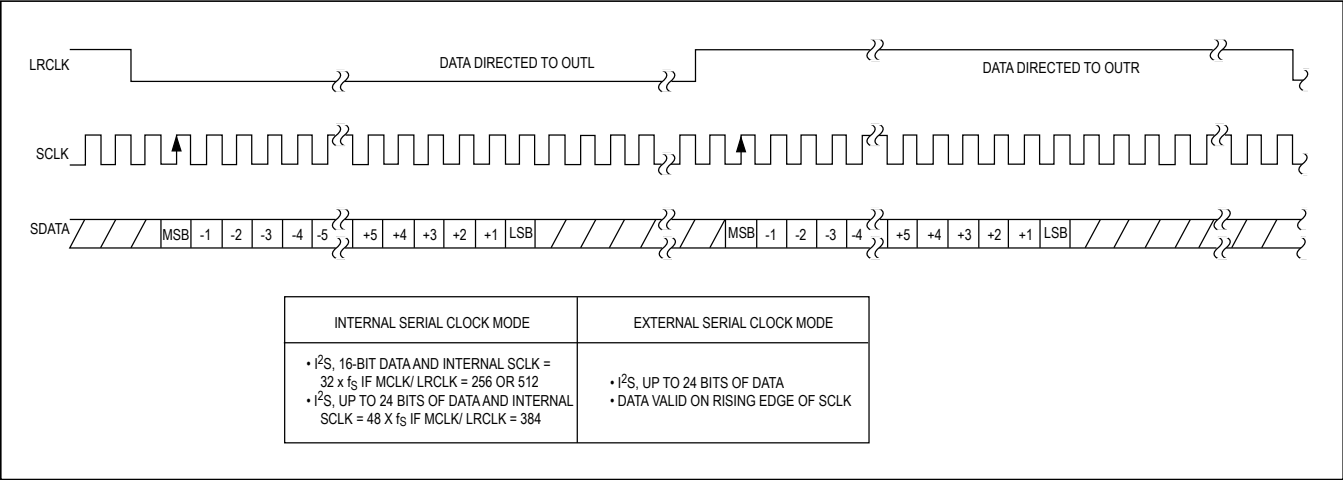

Figure 4. MAX5556 Data Format Timing
- Note 6:** In external SCLK mode, LRCLK duty cycles are not limited, provided all data formatting requirements are met. See Figure 4.
- Note 8:** The SCLK/LRCLK ratio can be set to 32, 48, or 64, depending on the MCLK/LRCLK ratio selected. See Figure 4.
The serial interface strobes data (SDATA) in on the rising edge of SCLK, MSB first. The MAX5556 supports four different data formats, as detailed in Figure 4.
LRCLK is the left/right clock input signal for the 3-wire interface and sets the sample frequency (f_S). On the MAX5556, drive LRCLK low to direct data to OUTL or LRCLK high to direct data to OUTR (Figure 4). The MAX5556 accepts data at LRCLK audio sample rates from 2kHz to 50kHz.
The MAX5556 accepts data with an I2S left-justified data format, accepting 16 or 24 bits of data. SDATA accepts data in two's complement format with the MSB first. The MSB is valid on the second SCLK rising edge after LRCLK transitions low to high or high to low (Figure 4). Drive LRCLK low to direct data to OUTL. Drive LRCLK high to direct data to OUTR. The number of SCLK pulses with LRCLK high or low determines the number of bits transferred per sample. If fewer than 24 bits of data are written, the remaining LSBs are set to 0. If more than 24 bits are written, any bits after the LSB are ignored.